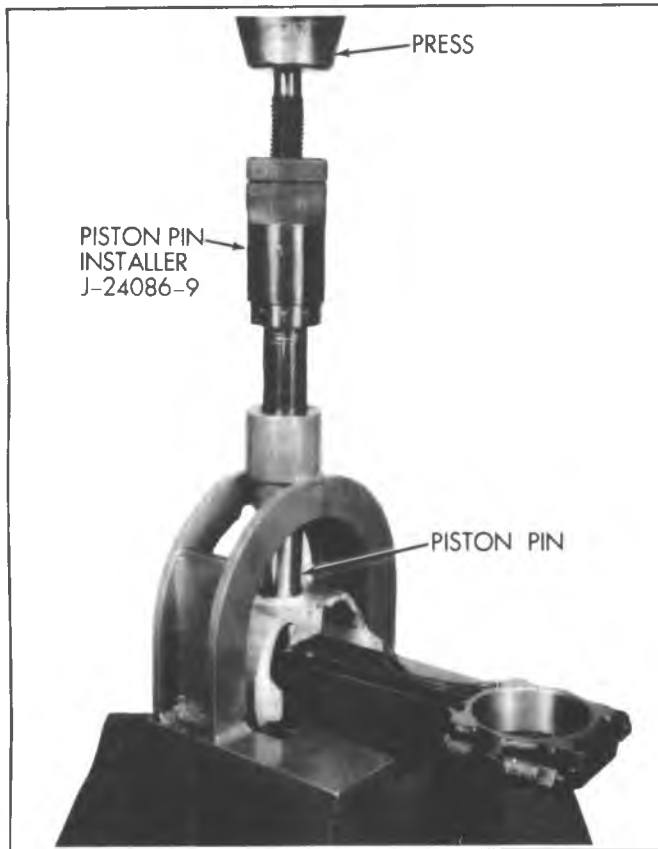

Fig. 6A4-53--Installing Piston Pin
3. Using piston pin installer, J-24086-9, press the piston pin into the piston and connecting rod (fig. 6A4-53).